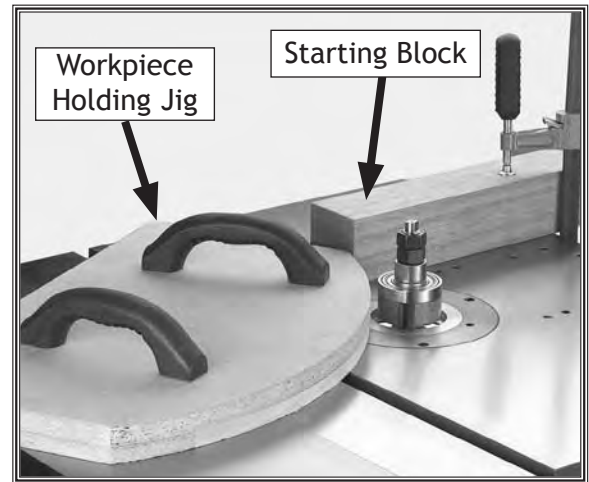

Figure 37. Using a holding jig on a starting block.
5. Use a workpiece holding jig to guide the workpiece and protect your hands (see Figure 37). Read the tips below when building a workpiece holding jig.